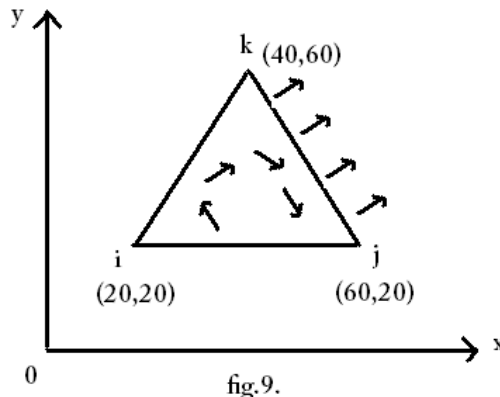

fig.9.
(b) Summarize the element equations for the element shown in fig.9. Which experiences convection on the side j k and its upper face: Take $k = 7.5\text{W/mm}^\circ\text{C}$, $h = 0.15\text{W/mm}^2\text{ }^\circ\text{C}$, $T_\infty = 20^\circ\text{C}$ and $t = 1\text{mm}$. (16)